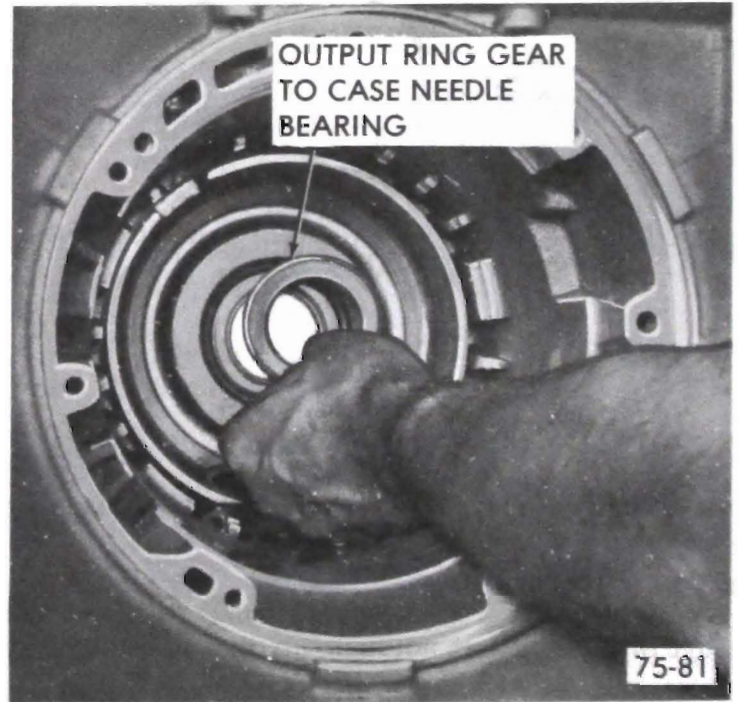

Figure 75-229
3. Install output ring gear to case needle bearing assembly. See Figure 75-229. Lip on inner race of bearing **MUST** point toward rear of transmission.